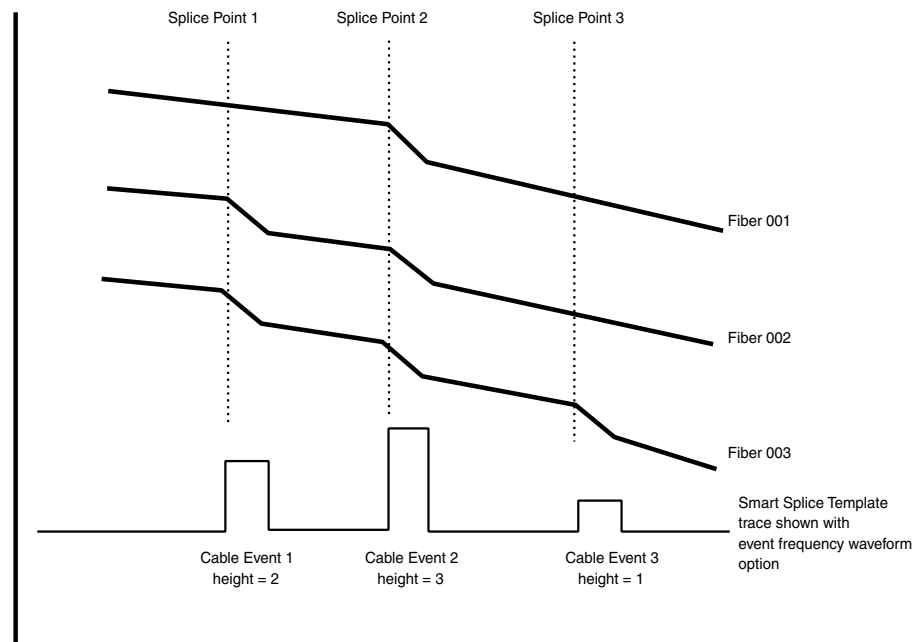

Figure 7-1: Smart Splice Template Trace
Figure 7-1 is a graphic representation of a smart splice template trace generated from the traces of three (3) fibers within a cable containing three (3) splice points. The representative trace for Fiber001 has one detectable event at splice point 2; Fiber002 has detectable events at splice points 1 and 2; and Fiber003 includes events at all three splice points. The resultant smart splice template shows three cable events. Note that the height of each is representative of the frequency of the number of traces that have a detectable event at that location.